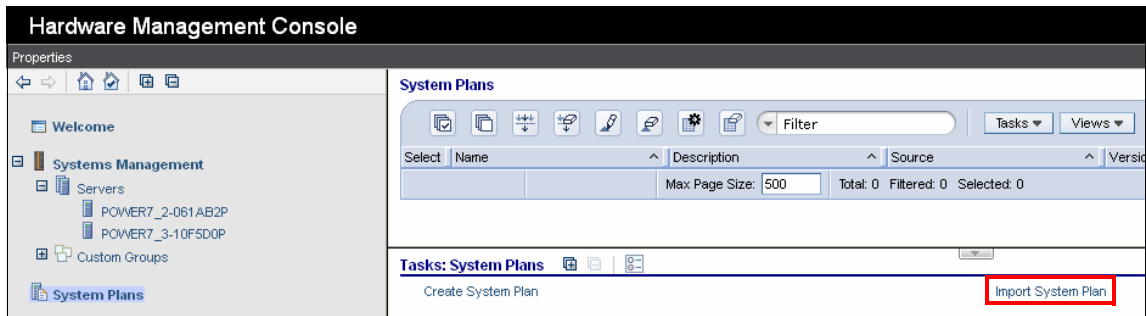

Figure H-6 System Planning Tool ready to be deployed
- When all elements of the System Plan are completed, you can import it to the HMC to be deployed. Figure H-6 shows the HMC with the imported SPT System Plan ready to be deployed.